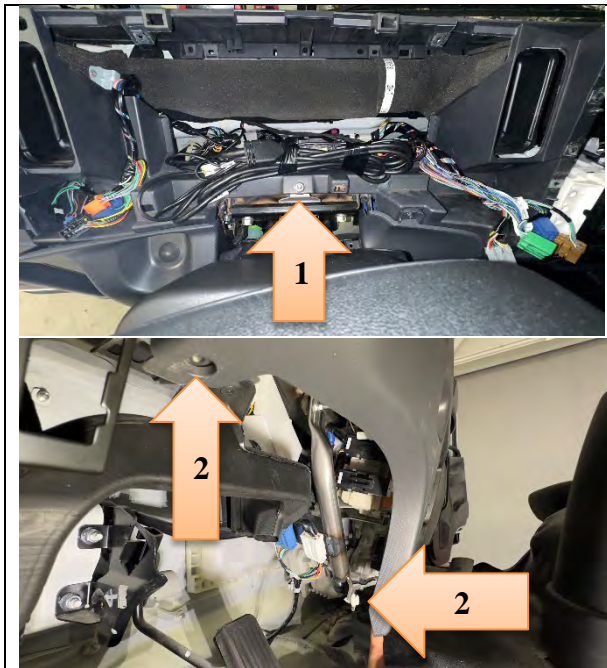

Figure 86
96. Install on the IP the one (1) nut on removed in Step 53 and the two (2) clips. (See Figure 86.) **Torque the nut to: 4.0 N•m (35 lb•in)**